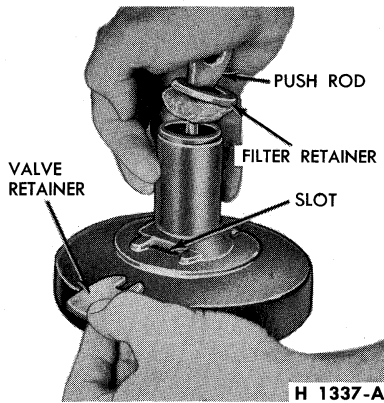

FIG. 19—Removing Valve Retainer
10. Hold the diaphragm plate so that the valve retainer is facing downward. Press the valve push rod inward to release the tension on the retainer and allow it to drop out of the plate (Fig. 19).
the hub of the diaphragm plate. Push the rod inward until the retaining groove is aligned with the slot, and then slide the retainer into the groove (Fig. 19).
6. Install the diaphragm on the diaphragm plate, making sure that the diaphragm lip is tucked in all around the recess between the hub and plate (Fig. 19).